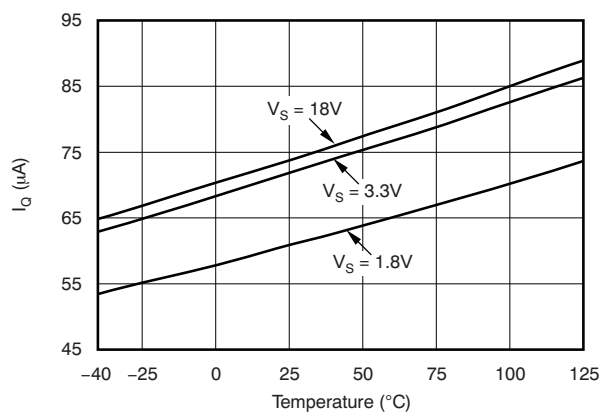

Figure 1.
(1) Specified by design. Not production tested.
(2) See Figure 1 for typical quiescent current.